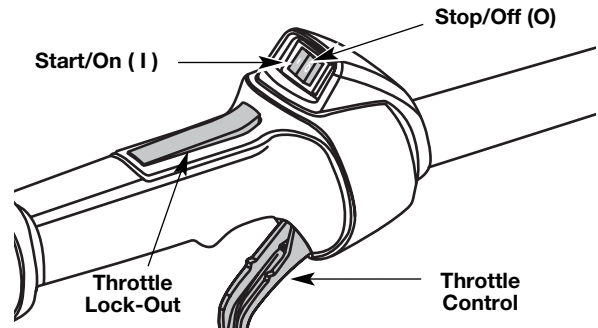

Fig. 19
3. Make sure the On/Off Stop Control in the ON (I) position (Fig. 19).